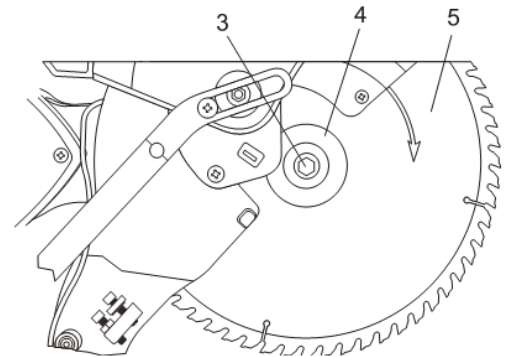

Fig. 34
5. While holding the spindle lock inward to prevent the blade rotating, place the special blade screw wrench on the blade screw (3) and turn the screw CLOCKWISE to remove it from the arbor (Fig. 34).